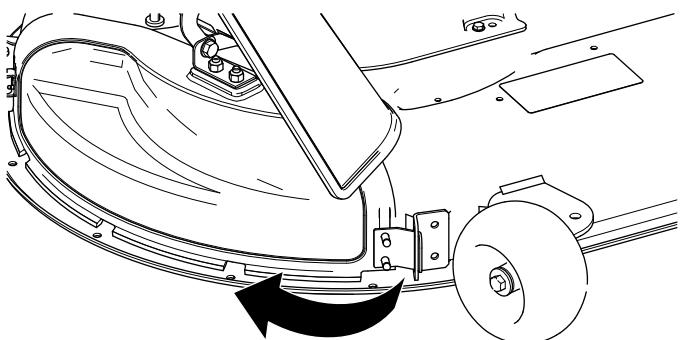

Figure 15
- Pivot the discharge cover back and toward the deck so that the discharge cover aligns with the mower deck (Figure 15).